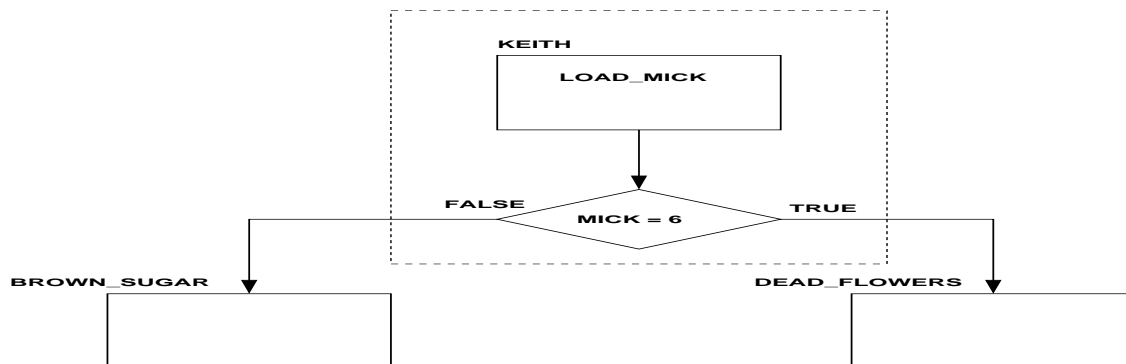

Figure 3: An ASM chart containing an error.
3. Consider a datapath which contains a register which has a control signal called “LOAD\_MICK” which acts as a synchronous load control signal for the register. Explain by means of a timing diagram and in words the error contained in the following ASM chart (Figure 3) :